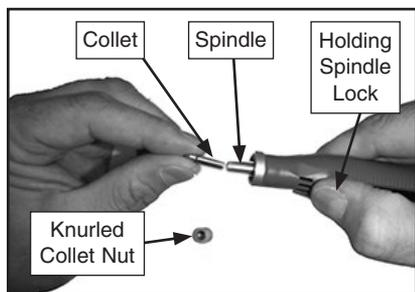

Figure 3. Inserting collet into spindle.
4. Insert collet into spindle, as shown in **Figure 3**.